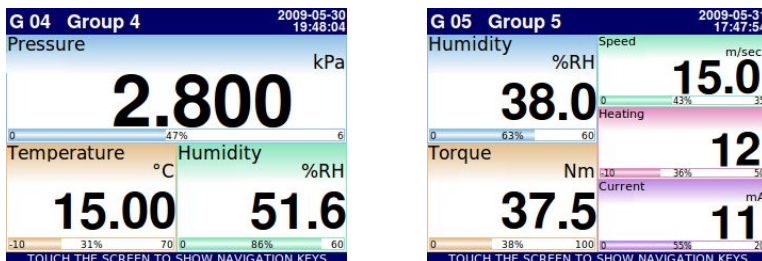

Fig. 6.6. Examples of **Numerical Values** presentation mode
- as numerical values **Fig. 6.6**